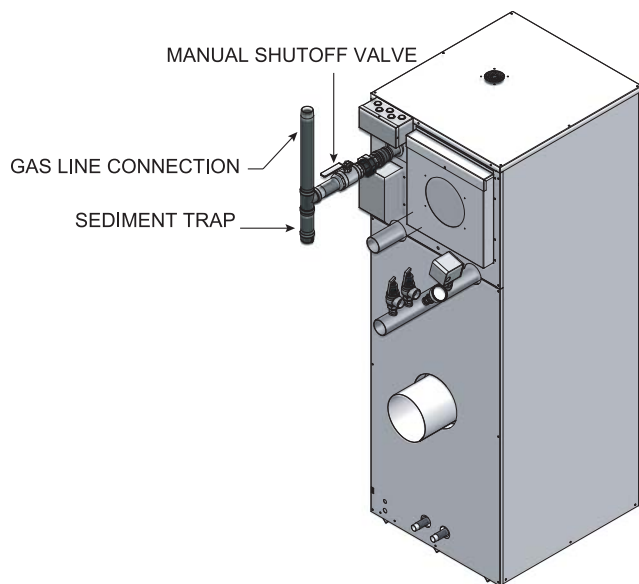

Figure 3-1 Gas Line Connection with Sediment Trap (Drip Leg) and Manual Main Gas Shutoff Valve
3. If an additional manual shutoff valve is required by local codes, install the valve on the outside at the gas supply to the appliance as shown in FIG. 3-1.
4. A sediment trap (drip leg) **MUST** be provided in the inlet of the gas connection to the appliance, see FIG. 3-1.
4. Install a sediment trap in the supply line to the unit's gas inlet (see FIG. 3-1).